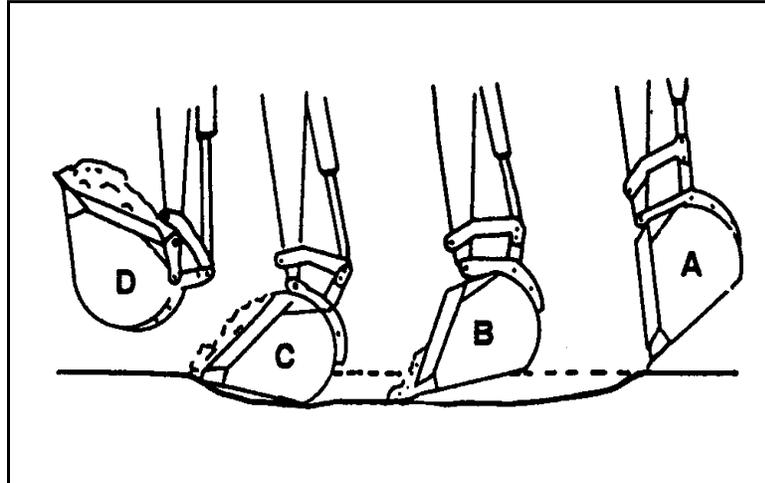

Figure 8-6. Hoe Digging Technique
Step 1. Lower the bucket into the digging position (*Figure 8-6 [A]*).
Step 2. Roll the bucket until the bucket teeth or the cutting edge is flat on the ground (*Figure 8-6 [B]*).
Step 3. Use the stick cylinder to move the bucket toward the machine until it is half full (Figure 8-6 [C]).
Step 4. Raise the stick and roll the bucket until it is full (Figure 8-6 [D]).